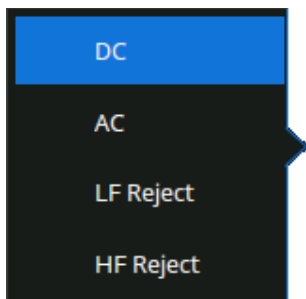

Figure 9.25 Trigger Coupling
- The window shown in figure 9.25 will appear.